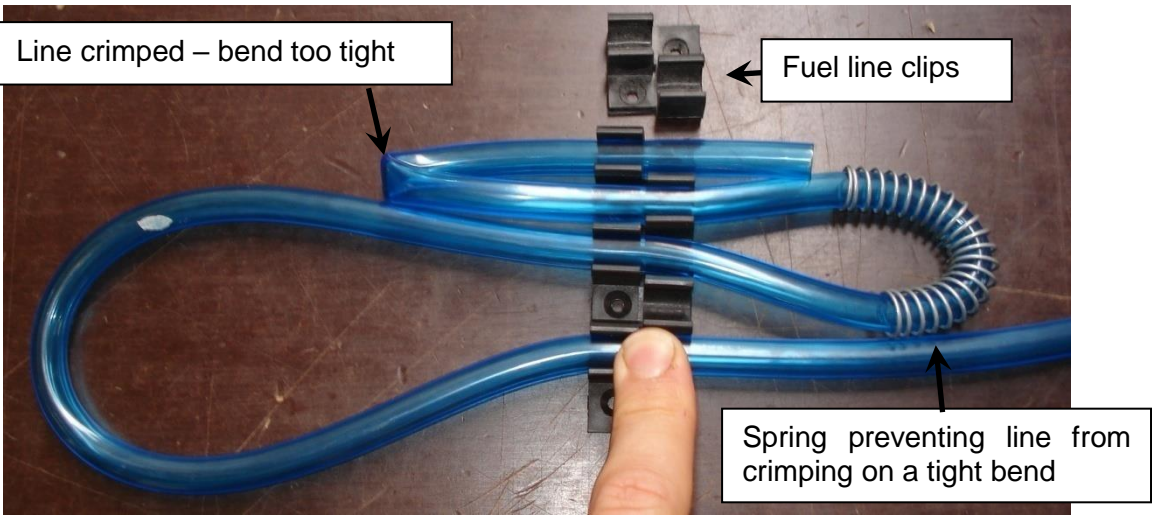

Figure 174 – Sample Fuel Line Details (all J-Series)
- Ensure line restraints are spaced at intervals no greater than 400mm (In some cases fuel lines are bundled inside tubes which are Velcro-ed to the aircraft – this is sufficient restraint.) If new restraints are added, plastic line clips can be bonded to the aircraft structure. (Figure 174 refers). Fasteners such as screws, which damage the structure, should not be used.
- Care must be taken when re-routing lines to avoid bending the hose around too sharp a corner – the flexible hose used can crimp itself off if bent too sharply. If a sharp bend is unavoidable a spring may be threaded over the line to prevent it crimping. Springs must be a snug fit on the hose & are available from Jabiru Aircraft if required. Figure 174 refers.